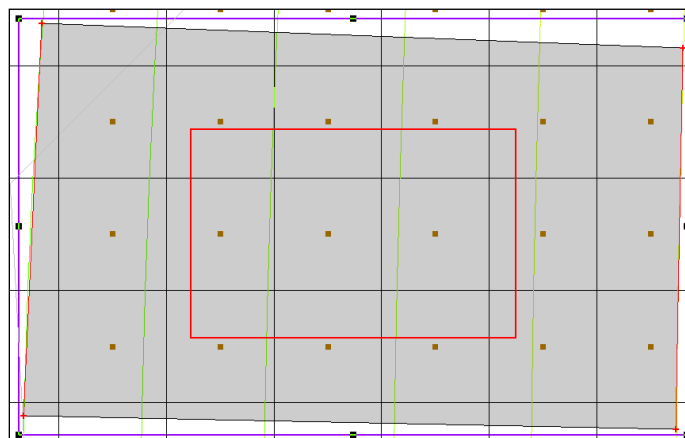

Figure 6 Grid frame encompassing the active coverage
3. If desired, use the **Grid Frame**  tool to position the grid frame to better match the local grid boundary (Figure 6).